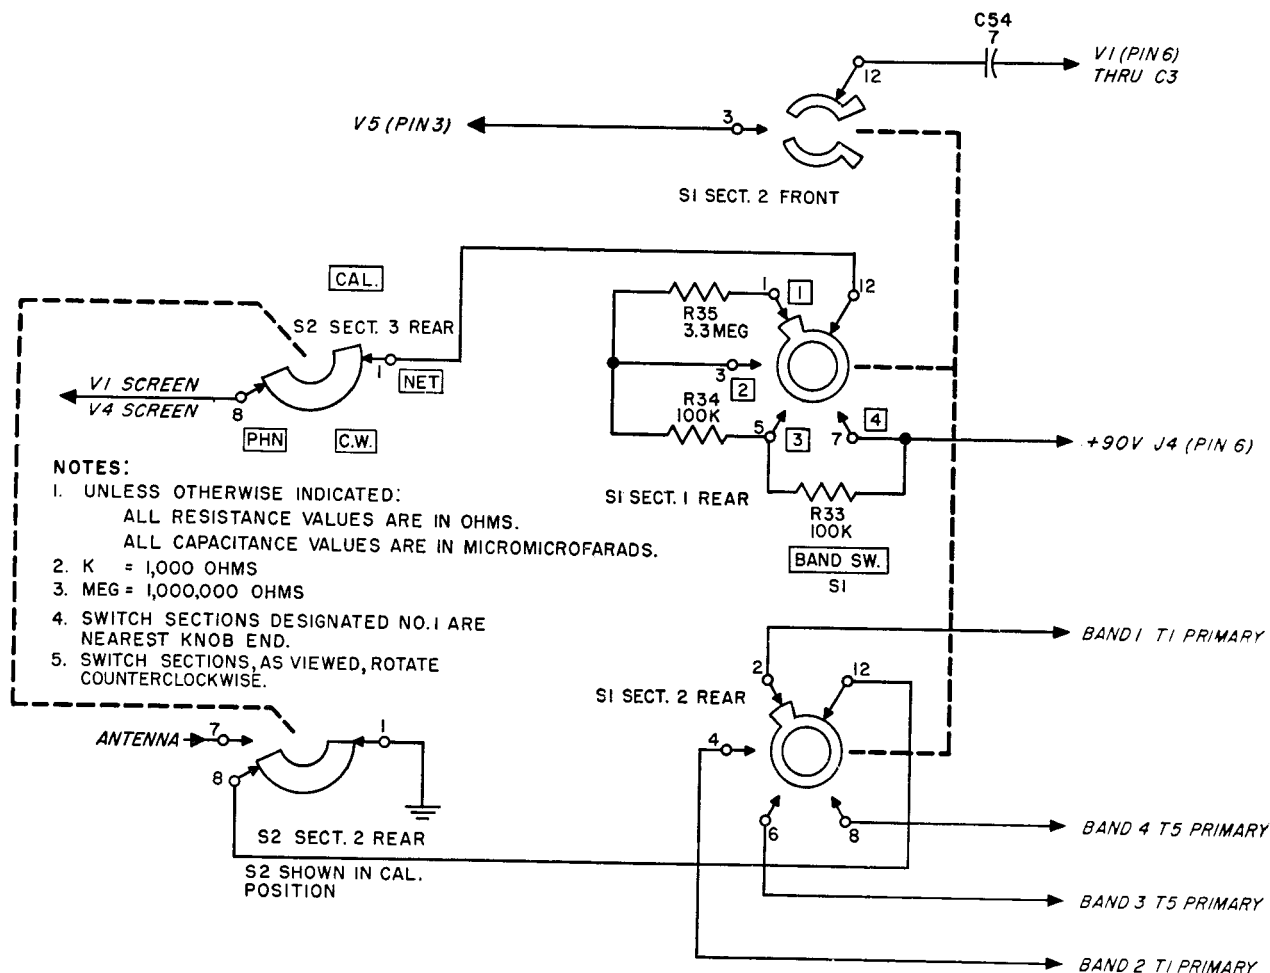

Figure 33. Radio Receiver R-174/URR, calibration, section 1 of BAND SW switch S1, functional schematic.
a. In the CAL. position of PHN.-C.W.-NET-CAL. switch, the receiver is capable of receiving signals only from the crystal calibration oscillator. The conditions are the same as C.W., except that the crystal calibration oscillator is operative (fig. 32), the antenna circuit is open (fig. 33), and the primary of antenna transformer T1 or T5 is shorted (fig. 33). The R.F. GAIN control is inoperative.
b. In this mode of operation, screen voltage for r-f tube V1 and i-f tube V4 is obtained from the 90-volt d-c potential at pin 6 of J4 through section 3, rear, of PHN.-C.W.-NET-CAL. switch S2 and section 1 of BAND SW. switch S1, and the voltage-dropping resistor network consisting of R35, R34, and R33 (fig. 33). These resistors are eliminated successively from the screen circuits of V1 and V4 as BAND SW.